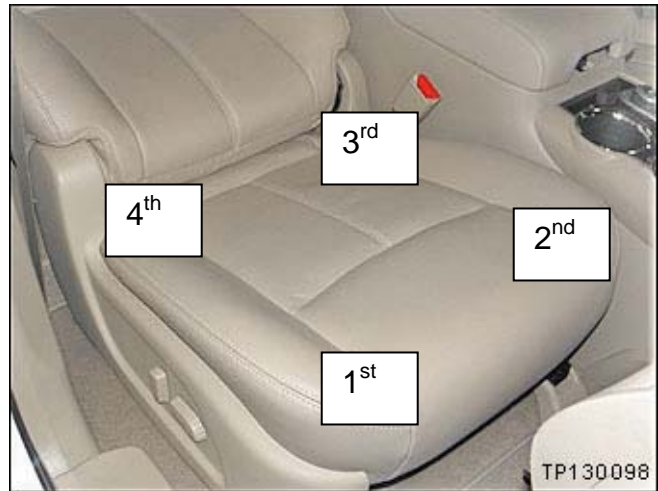

Figure 26
- Torque the nuts in the order shown in Figure 26.